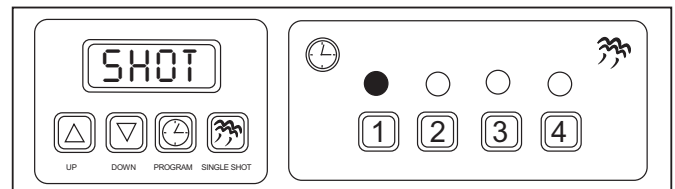

Figure 6. SHOT Mode on Menu 1
**SHOT (Steam Shot Time)** is used to adjust the water volume used during each solenoid operation (shot of steam) (Figure 6).
9. Press the PROGRAM button again and SHOT will appear in the display for a moment (Figure 6).
11. Press the selected channel button to store the changes (Figure 6) or press another channel button to store the changes and select a new channel.